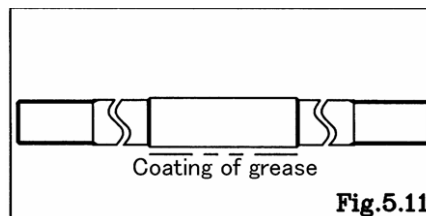

Fig.5.11
- Apply assembly grease(urea) to the center rod, and insert it into the main body. [Fig.5.11]